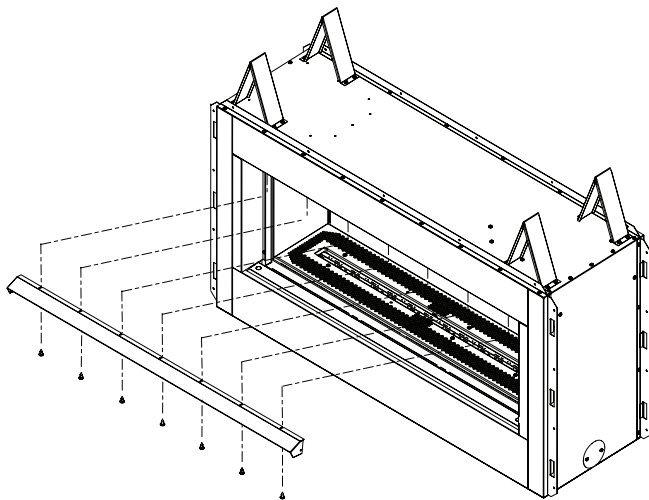

Figure 17 - Installing Hood
1. Loosen screws at top of face opening and slide hood through screws as shown in **Figure 17**.
1. If required, install hood as shown on **Figure 17, Page 13**.